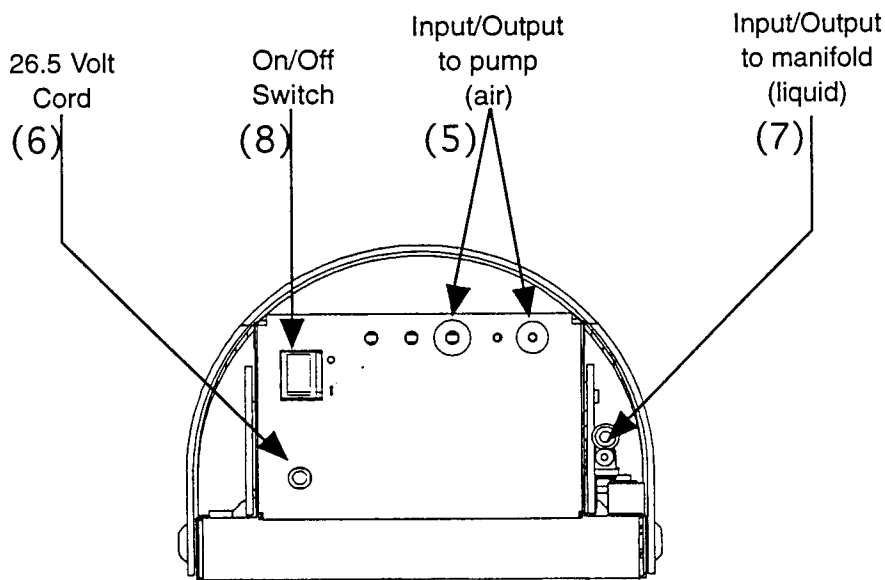
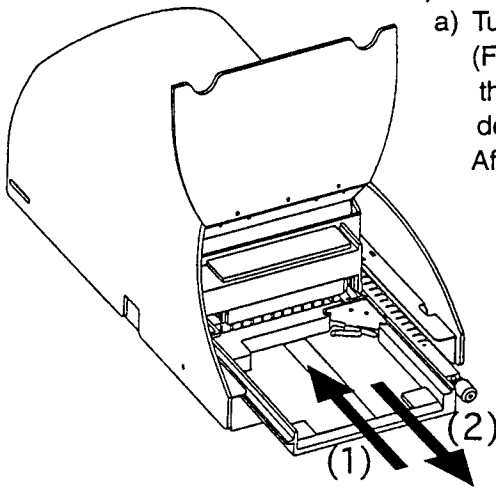
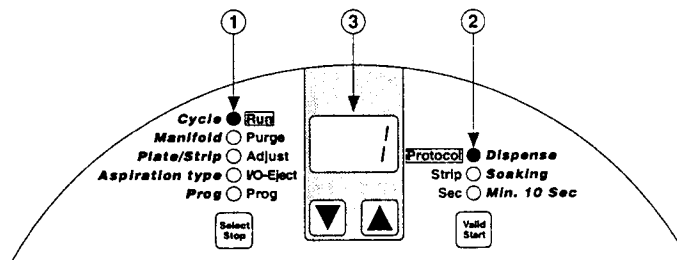

Fig. 2 Rear view
Fig. 5 Plate carrier motion at turning on.
Fig. 6 Display at first turning on.
- a) Unroll the red tube from the washer's left side (7) and connect it to red connector on Waste bottle (Fig. 2).
- Connect jack plug to the washer (6) (on rear panel below On/Off Switch). (Fig. 2).
- Turn the washer ON (On/Off switch on rear panel (8). (Fig. 2) While the plate carrier and manifold are moving to their home position, an autotest is performed (all the diodes are on orange as well as the LED display). (Fig. 5) After 1 second, the keyboard is displayed as follows (Fig. 6):